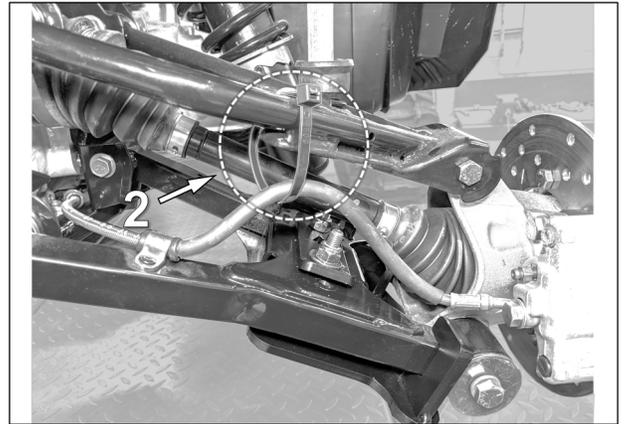

Fig. 12
10. Loosely wrap a large Zip-tie (2) around upper suspension arm and brake hose to re-position hose. Refer to Fig. 12